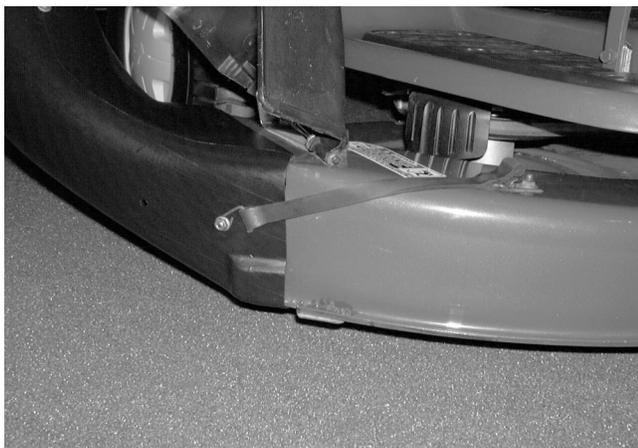

FIGURE 6.
8. Secure the discharge chute by hooking the retain-er strap over the clip on the deck. See figure 6.